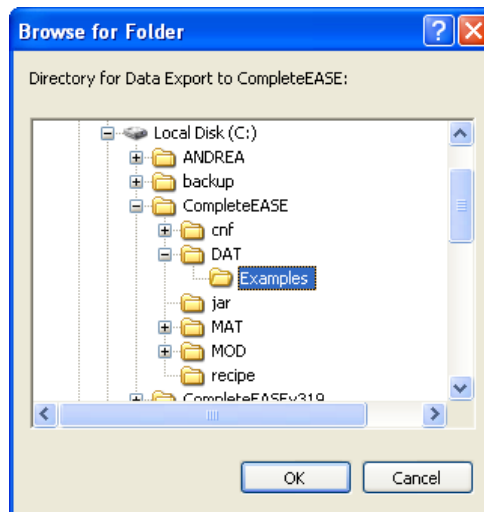

Figure 14-7. Browse for location to place the newly created CompleteEASE files.
3. Browse to select the directory for data exported to CompleteEASE, as shown in Figure 14-7.. Exported files will be saved in CompleteEASE format in the directory chosen.